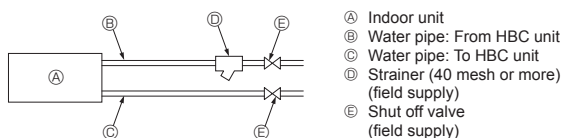

Fig. 4-4
10. Please refer to the [Fig. 4-4] when connecting the water supply.